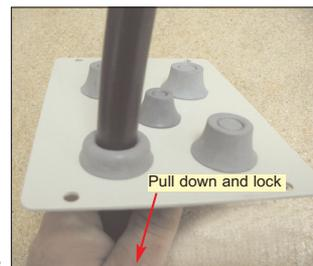

Fig. 23
- Insert the cable and grommet through the hole in the feed-through plate until the grommet locks in the outer groove. Pull the cable downward to lock the grommet and complete the seal (Fig 23).